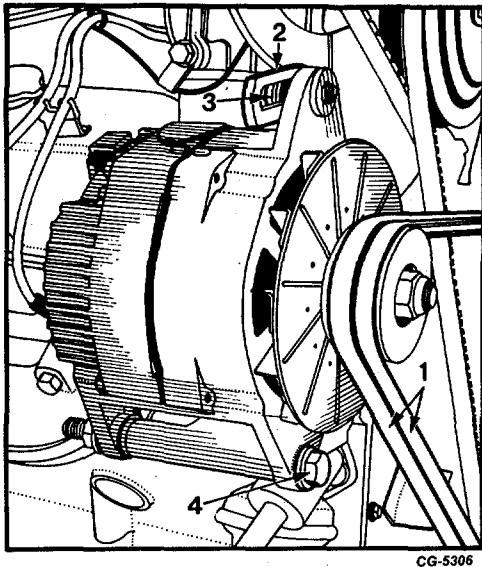

Fig. 13 Removing Alternator V-Belts
7. Loosen alternator adjusting strap bolt and mounting bolt, Figure 13. Remove two V-belts.